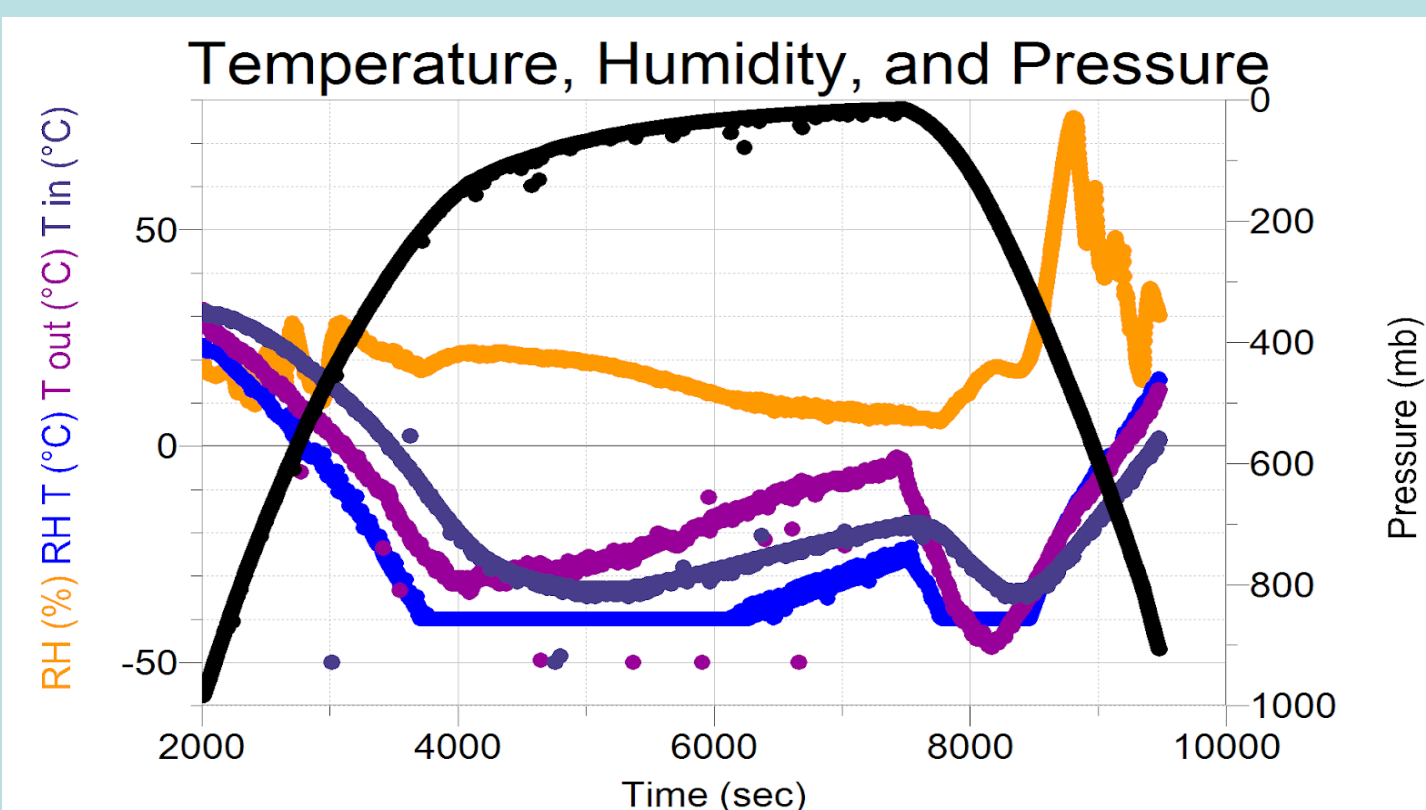

Figure 1- Temp, Humidity & Pressure
- The Payload was well insulated staying $+20^{\circ}\text{C}$ above coldest temperatures (Fig 1)
- The lowest pressure the payload experienced was 14.44 mb (or ~ 0.2 psi) (Fig 1)